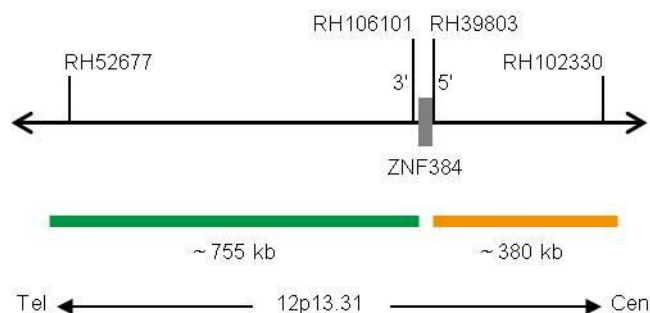

Fig. 1: SPEC ZNF384 Probe map (not to scale)
- ZyGreen (excitation 503 nm/emission 528 nm) labeled polynucleotides (~10.0 ng/μl), which target sequences mapping in 12p13.31* (chr12:6,016,809-6,771,300) distal to the breakpoint region (see Fig. 1).
- ZyOrange (excitation 547 nm/emission at 572 nm) labeled polynucleotides (~4.5 ng/μl), which target sequences mapping in 12p13.31* (chr12:6,799,546-7,175,222) proximal to the breakpoint region (see Fig. 1).